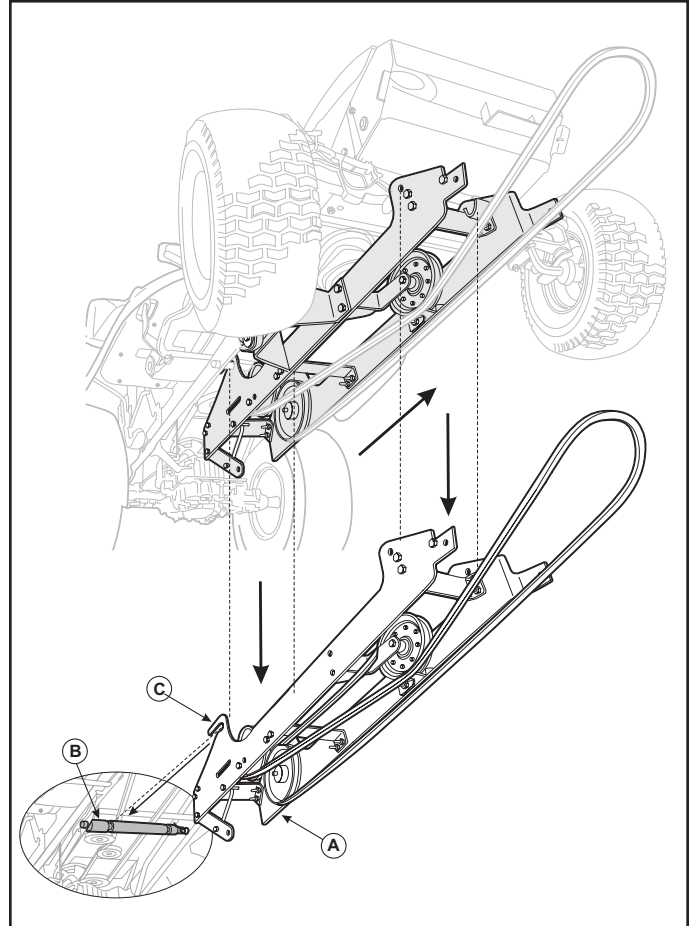

Figure 27. Hitch Removal
- Slide the hitch assembly (A, Figure 27) forwards until the hitch mounting arms (C) are free of the hitch support shaft (B).